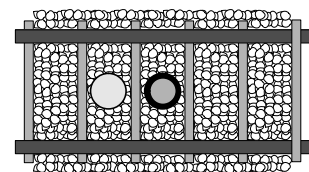

Figure 5a
With this sensor mode and physical arrangement a train is detected when the infrared (IR) beam is reflected on the underside of the train. The IR components should be mounted between the rails. Drill two 11/64" holes, through the ballast, roadbed, and sub-roadbed. These holes should be located **one tie apart** (Figure 5a) and drilled at a **slight angle from vertical** towards each other as illustrated in the side view in Figure 5b. The benefit of mounting them at an angle is increased detection reliability in smaller scales or irregular bottoms on rolling stock. For the smaller scales this drilling may end up hitting the ties. Take your time so you don't mangle them! Insert the leads of one IR emitter (white and black wires) into one of the holes (it doesn't matter which one!) from the top of your layout. Repeat for the IR detector (blue and black wires). **The tops of the components should sit no higher than the top of the ties for optimal IR performance;** in some cases (e.g. false triggering) it may be necessary to locate the components a little below the ballast line. You can extend the leads with similar (or larger) wire. We recommend soldering and insulating these connections. We also recommend using terminal blocks/strips since you'll have multiple connections to make. Once you have wired the IR components and verified their operation you may wish to put a dab of white glue or silicone caulk where the wires exit the holes underneath the layout. This will help to hold the components in place; make sure you don't get any substance (e.g. ballast or glue) on the top surface of the IR components as this may prevent them from operating properly. In extreme cases where you may be getting interference from overhead lighting you can mount the IR detector in some plastic or metal tubing. You can also recess the IR detector slightly below the ties and roadbed.